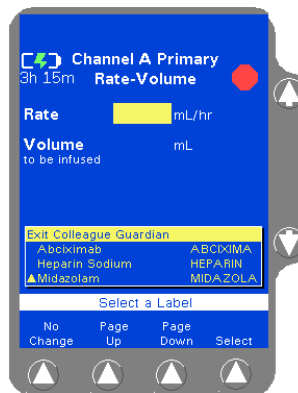

Figure 6 Colleague Guardian Label List
2. Press the **Colleague Guardian** soft key from the Programming screen. The labels for which COLLEAGUE GUARDIAN limits have been defined are displayed in a pop-up window (Figure 6).